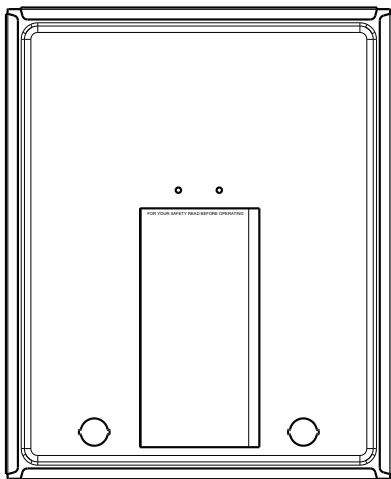

Fig. 31 - Operating Instructions Inside Door
4. Remove one of the unused rubber plugs in the port on the collector box opposite the condensate trap. See Fig 31.
See the information booklet inside the main furnace door for a service code legend. See Fig. 31.